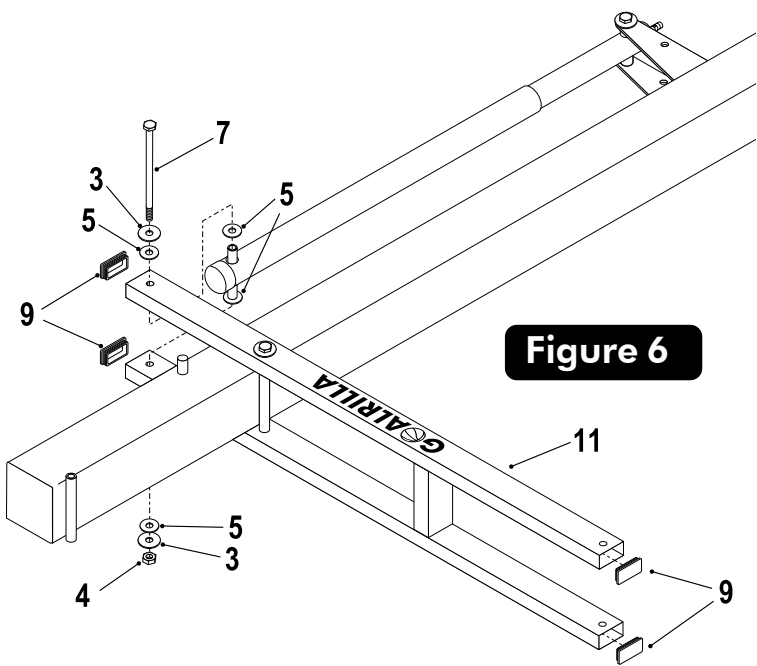

Figure 6
6. Secure Actuator (#16) to Lower Arm (#11) using one bolt (#7), two flatwashers (#3), four plastic washers (#5) and one hex nut (#4). See Figure 6. Tighten both bolts (#7) securing Lower Arm (#11).